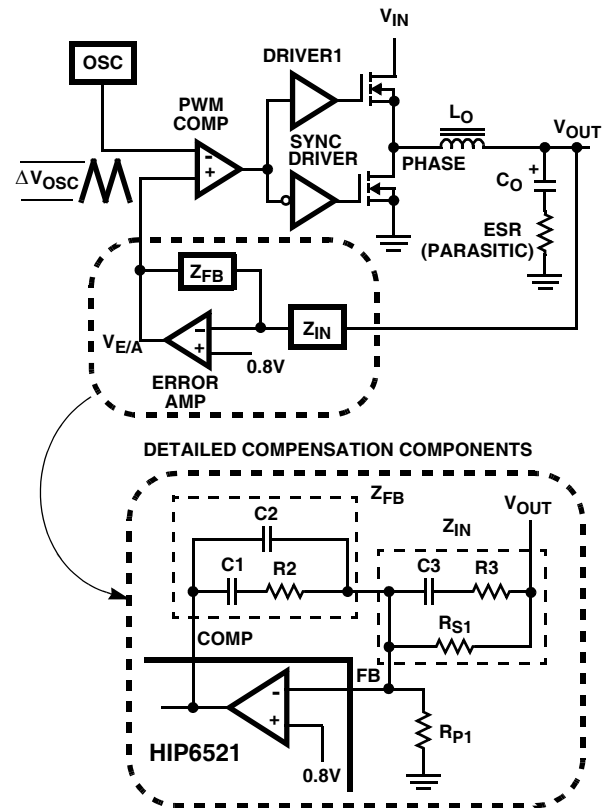

FIGURE 6. VOLTAGE-MODE BUCK CONVERTER COMPENSATION DESIGN
Figure 6 highlights the voltage-mode control loop for a synchronous-rectified buck converter. The output voltage ( $V_{OUT}$ ) is regulated to the Reference voltage level, 0.8V. The error amplifier (Error Amp) output ( $V_{E/A}$ ) is compared with the oscillator (OSC) triangular wave to provide a pulse-width modulated (PWM) wave with an amplitude of  $V_{IN}$  at the PHASE node. The PWM wave is smoothed by the output filter ( $L_O$  and  $C_O$ ).
The compensation network consists of the error amplifier (internal to the HIP6521) and the impedance networks  $Z_{IN}$  and  $Z_{FB}$ . The goal of the compensation network is to provide a closed loop transfer function with high 0dB crossing frequency ( $f_{0dB}$ ) and adequate phase margin. Phase margin is the difference between the closed loop phase at  $f_{0dB}$  and 180°. The equations below relate the compensation network's poles, zeros and gain to the components (R1, R2, R3, C1, C2, and C3) in Figure 6. Use these guidelines for locating the poles and zeros of the compensation network:
Figure 7 shows an asymptotic plot of the DC/DC converter's gain vs. frequency. The actual Modulator Gain has a high gain peak dependent on the quality factor (Q) of the output filter, which is not shown in Figure 6. Using the above guidelines should yield a Compensation Gain similar to the curve plotted. The open loop error amplifier gain bounds the compensation gain. Check the compensation gain at  $F_{P2}$  with the capabilities of the error amplifier. The Closed Loop Gain is constructed on the log-log graph of Figure 10 by adding the Modulator Gain (in dB) to the Compensation Gain (in dB). This is equivalent to multiplying the modulator transfer function to the compensation transfer function and plotting the gain.